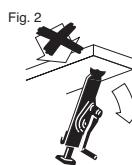

Fig. 2 / Abb. 2
- d) Never lift a load with the jack in an inclined position (fig. 2).